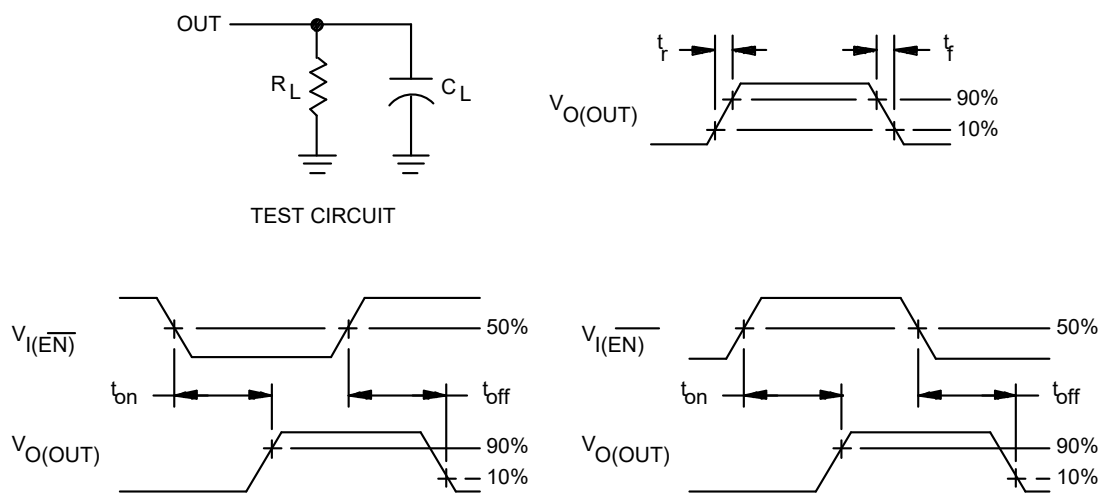

FIGURE 4. Test circuit and voltage waveforms.
3.5.4 Test circuit and voltage waveforms. The test circuit and voltage waveforms shall be as shown in figure 4.